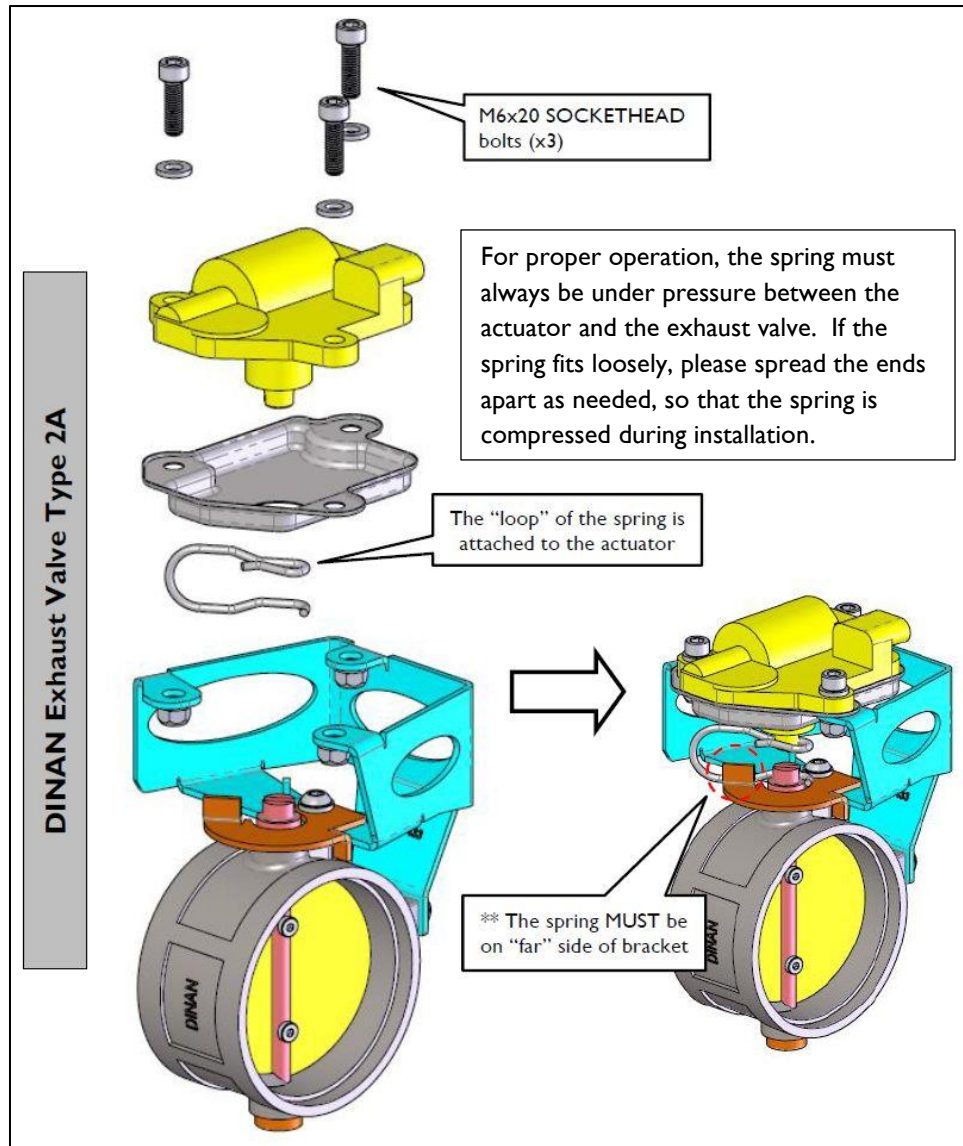

Figure 6: Assembly: Valve Motor
3) Using supplied hardware, install motor and spring as shown in Figure 6.